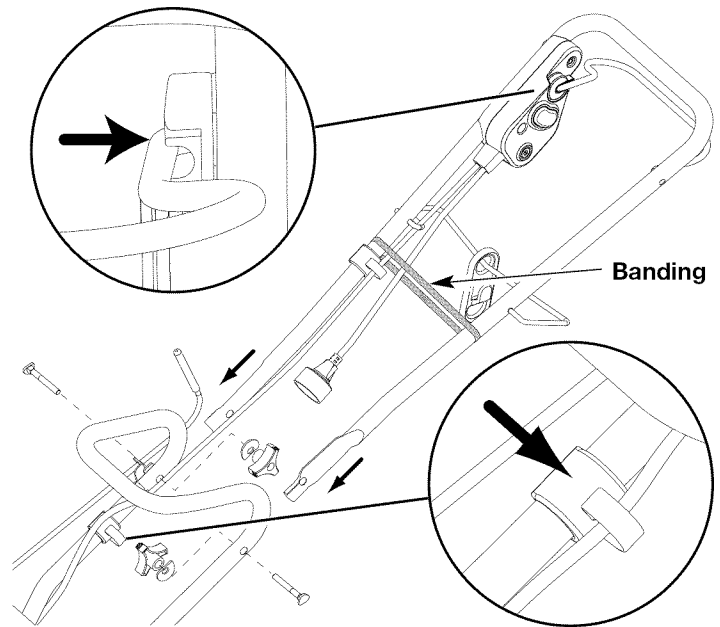

Fig. 1
1. When unpacking the unit, loosen and remove the two knobs and washers from the inside of the lower bars (Fig. 1).
2. Hold the handle bar in the position shown in Figure 1 and slide it onto the lower bars making sure that the ends of the handlebar are on the inside of the lower bars.
6. Clip the switch cable to the cable restraint on the lower bar as shown in the inset of Figure 1.
7. Remove the banding once the upper handle is assembled to the lower handle (Fig. 1).
8. Make sure the bail is installed into switch assembly (Fig. 1).